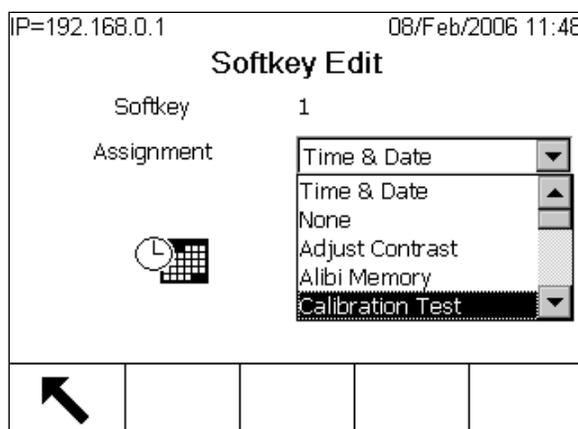

Figure E-4: Soffkey Edit Screen
-  **Edit** Opens the Softkey Edit screen shown in Figure E-4, allowing editing of selected softkey's assignment
2. Press the EDIT soffkey . The Soffkey Edit screen (Figure E-4) displays. The soffkey position number selected for editing is shown on the screen along with the current assignment.